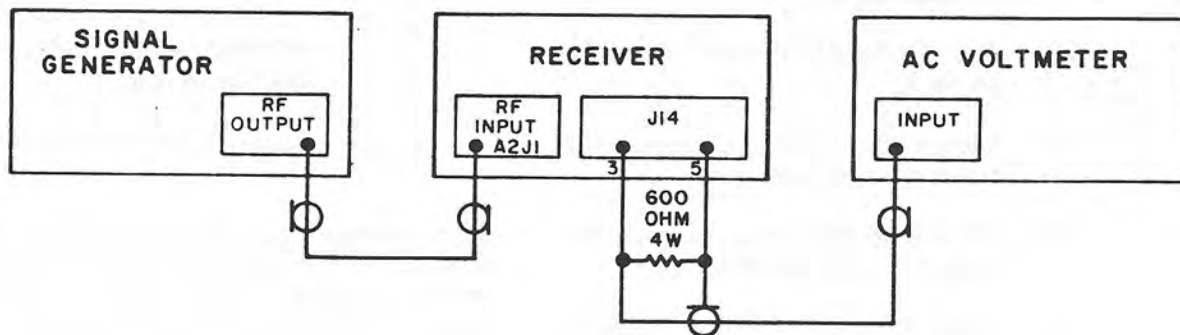

Figure 4-3. Manual/Automatic Gain Control Performance, Test Setup
(1) A signal generator, an ac voltmeter, and a 600-ohm, 4 W resistor are needed for this test.
(2) The test equipment is set up and connected as shown in figure 4-3.
(3) Manual/automatic gain control test